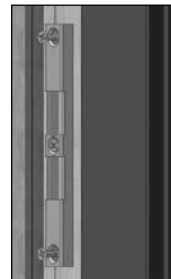

FIG. 26
- C) Sliding patio doors: After the operating panel and keeper are adjusted to the optimal position, apply the supplied #10 x 1-1/4" screws through the top and bottom holes of the keeper. Pre-drill the holes using a 1/8" bit prior to assembly. (Fig. 26)